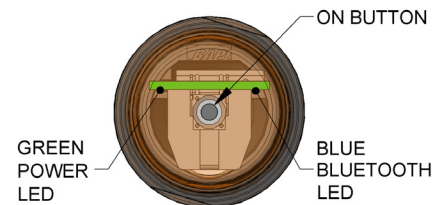

Fig. 4A: Blü-Test Probe On/Off Button and Indicators
2. Turn on the Blü-Test Probe by pushing the top On/Off button (Fig. 4A). The green LED indicates power and the blue LED indicates Bluetooth communication (1 sec. intervals).